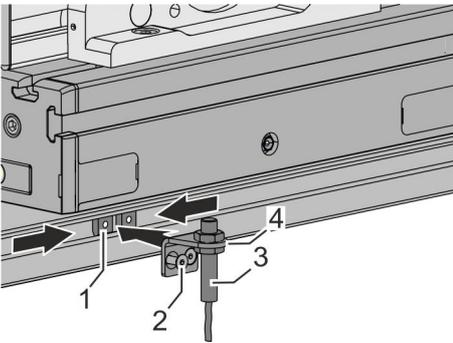

Fig. 39: Assembling the limit switch
1. Insert and position the slot stones (Fig. 39/1) in the slot of the guide profile.
2. Place the limit switch (Fig. 39/3) along with a mounting bracket (Fig. 39/4) at the height of the inserted slot stones.
3. Tighten 2 screws (Fig. 39/2):